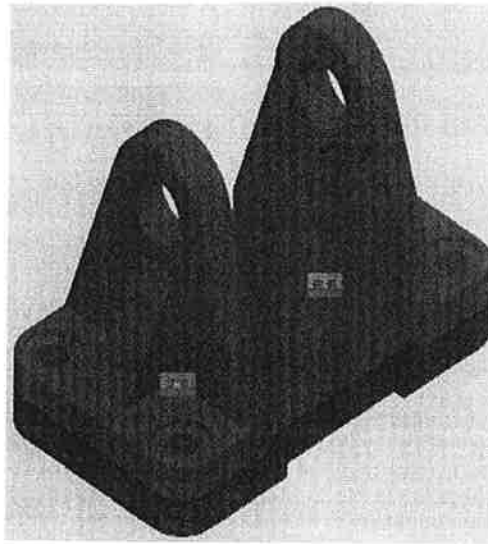

Figure 14–35
7. In the JOINT palette, click **OK** to complete the creation of the rigid joint, as shown in Figure 14–35. Note that two Rigid Joint icons display on the model, identifying how the components are joined.